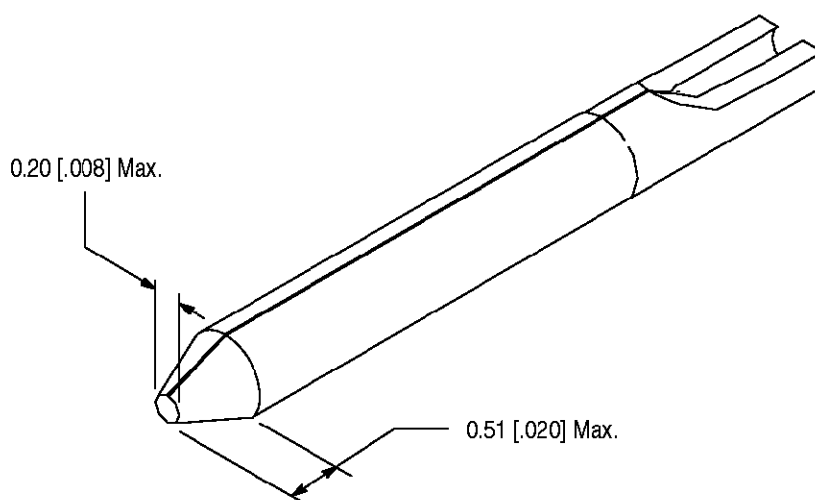

Figure 3
- Added new Paragraph 3.3 and renumbered; and added new Figure 3 and renumbered
Miniature Circular DIN Shielded Right Angle receptacle connectors will mate with compatible free hanging cable connectors. The pin tip configuration of the cable connector should have an 0.20 [.008] (max.) flat and a 0.38 ± 0.13 [.015 ± .005] chamfer length to effectively engage socket contacts of the receptacle connector. See Figure 3.